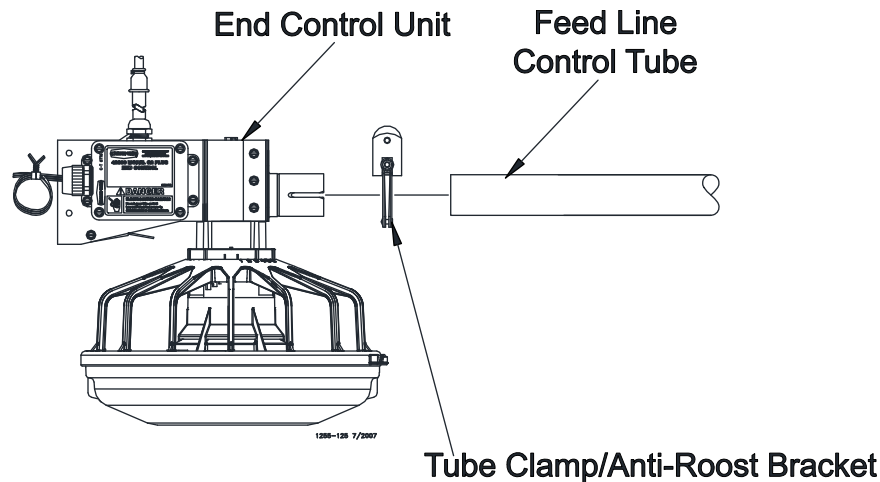

Figure 29.Connecting End Control Unit to the Feed Line Tube
1. Assemble the End Control Unit to the Feeder Line Control Tube using a clamp/anti-roost bracket. See **Figure 29. DO NOT INSTALL THE POWER UNIT AT THIS TIME.**